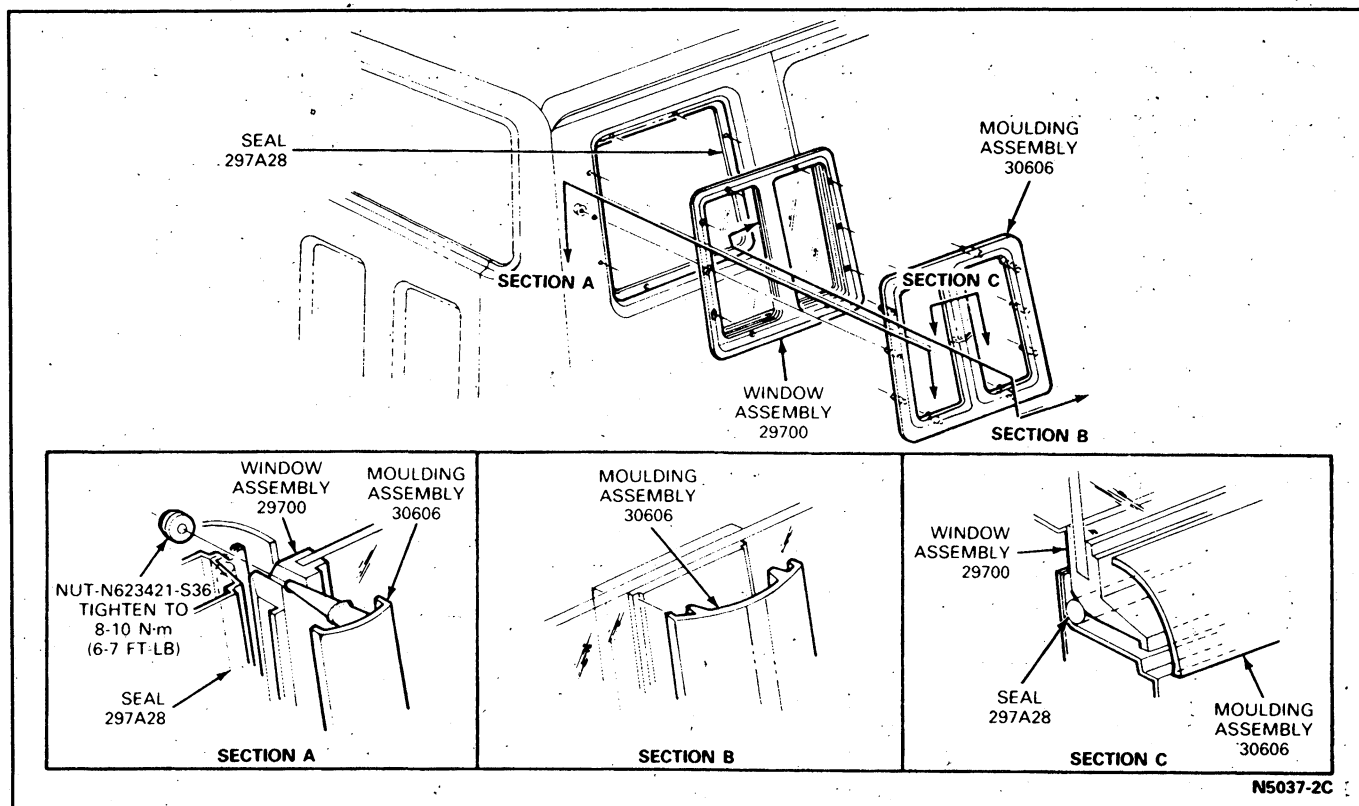

FIG. 4 Quarter Window Installation—F-150—F-350 Super Cab
2. Remove nuts securing moulding assembly (Fig. 4).
2. Install nuts securing moulding assembly (Fig. 4).